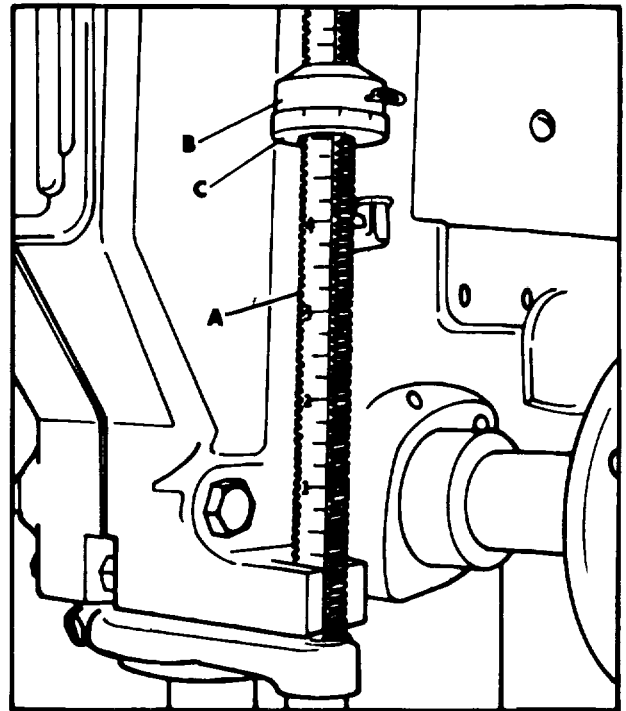

Figure 9. Hand Feed Drill Press
When drilling one or two holes to a predetermined depth, the graduations on the face of the depth stop rod (A) Fig. 9, can be used.
1. Raise the locking sleeve (B) Fig. 9, and turn the micro-nut (C) to the desired position on the stop rod (A).
2. Lower the locking sleeve (B) so it will engage micro-nut (C) Fig. 9. Lock sleeve (B) in place with thumb screw if drill press head is mounted in other than vertical position. When the drill press is mounted with the chuck pointing "up", the locking sleeve (B) and micro-nut (C) Fig. 9, should be reversed on the stop rod (A).
3. When locking sleeve (B) is in place on the micro-nut (C) Fig. 9, the micro-nut can not be turned. When a change in depth is required, the locking sleeve (B) must be raised, and while it is raised, turn the micro-nut (C) the necessary graduation marks. Each mark represents .002". Then lower the locking sleeve (B).